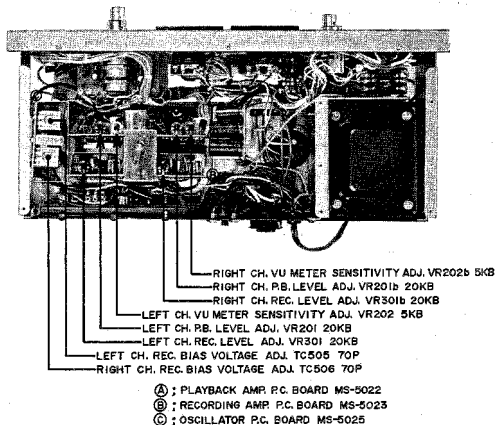

Fig. 20
- 5) Adjust P.B. Amp. P.C. Board playback level adjustment semi-fixed resistors VR201 20 kΩ (Left Channel) and VR201b 20 kΩ (Right Channel) shown in Fig. 20 to obtain a High Sensitivity V.T.V.M. indication of 4 dB (1.228 V)
After the playback output level adjustment has been completed, adjust P.B. Amp. P.C. Board VU meter sensitivity adjustment semi-fixed resistors VR202 5 kΩ (Left Channel) and VR202b 5 kΩ (Right Channel) shown in Fig. 20 to obtain a VU meter indication of "0" VU on both channels.
- 6) Set Monitor Switch to SOURCE position, and adjust Rec. Amp. P.C. Board recording level adjustment semi-fixed resistors VR301 20 k Ω (Left Channel), and VR301b 20 k Ω (Right Channel) shown in Fig. 20 to obtain a V.T.V.M. indication of 4 dB on both channels.